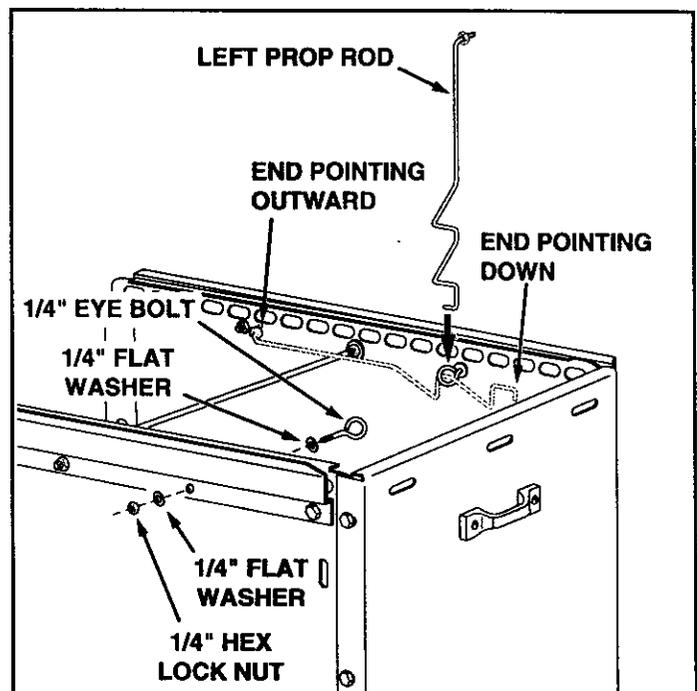

FIGURE 15
- Place a 1/4" flat washer onto a 1/4" eye bolt and insert the bolt through the second hole from the front in the side panel and side bracket. Assemble another 1/4" flat washer and a 1/4" hex lock nut onto the bolt. **Tighten,** leaving the nut loose enough that the eye bolt turns freely. Repeat on other side. See figure 15.
- Insert the left prop rod through the eye bolt and temporarily rest it on top of the tie rod as shown in figure 15. Make sure the hook end of the prop rod points down and the threaded end points outward. Repeat for the right prop rod.